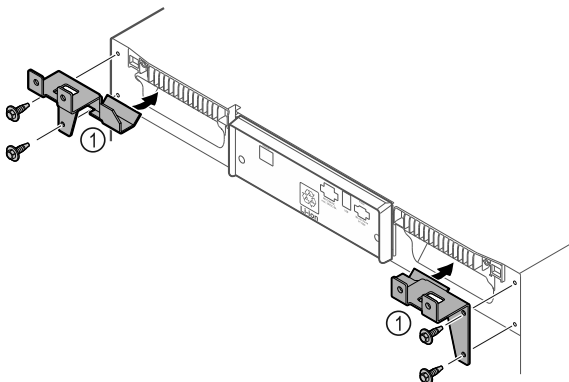

Fig. 9
- Mount retaining parts Fig. 9 (1) on the appliance using the supplied screws.